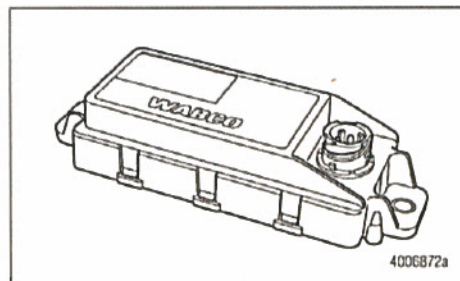

Figure 10
6. Remove the two mounting capscrews and nuts. Remove the ESC Module. Figure 10.